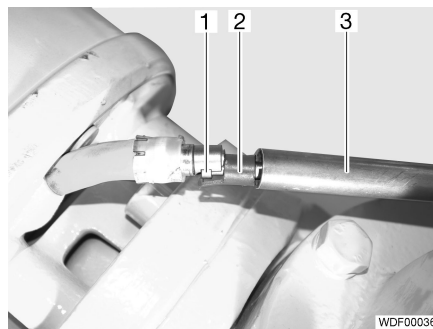

Fig. 280 Bowden cable on the front axle
- Push in the Bowden cable (Fig. 280,1) at the side.
- Push the fastener (Fig. 280,2) towards the brake drum and secure it with the hook.
- Push the sleeve (Fig. 280,3) over the fastener.